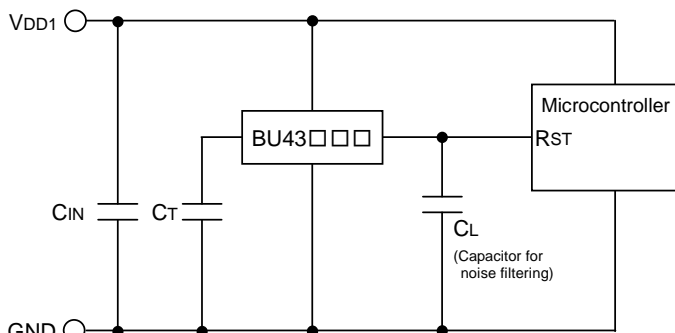

Fig.20 CMOS Output type
The power supply of the microcontroller (Vdd1) is same as the power supply of the reset detection (Vdd1). Use CMOS output type (BU43□□G/FVE) or Open Drain Output Type (BU42□□G/FVE) attached a load resistance (RL) between the output and Vdd1. (As shown Fig.20)